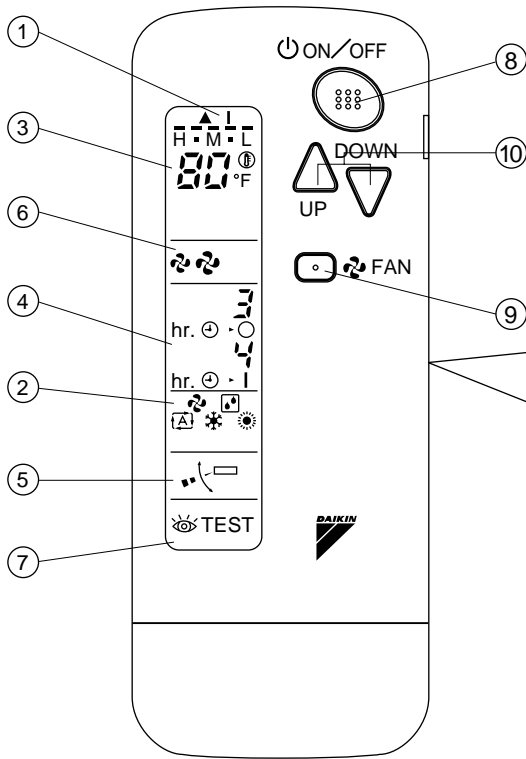

Fig. 1-1
## 2. NAMES AND FUNCTIONS OF THE OPERATING SECTION (Fig. 1-1~3, 2)
- For the sake of explanation, all indications are shown on the display in Fig. 1-1 contrary to actual running situations.